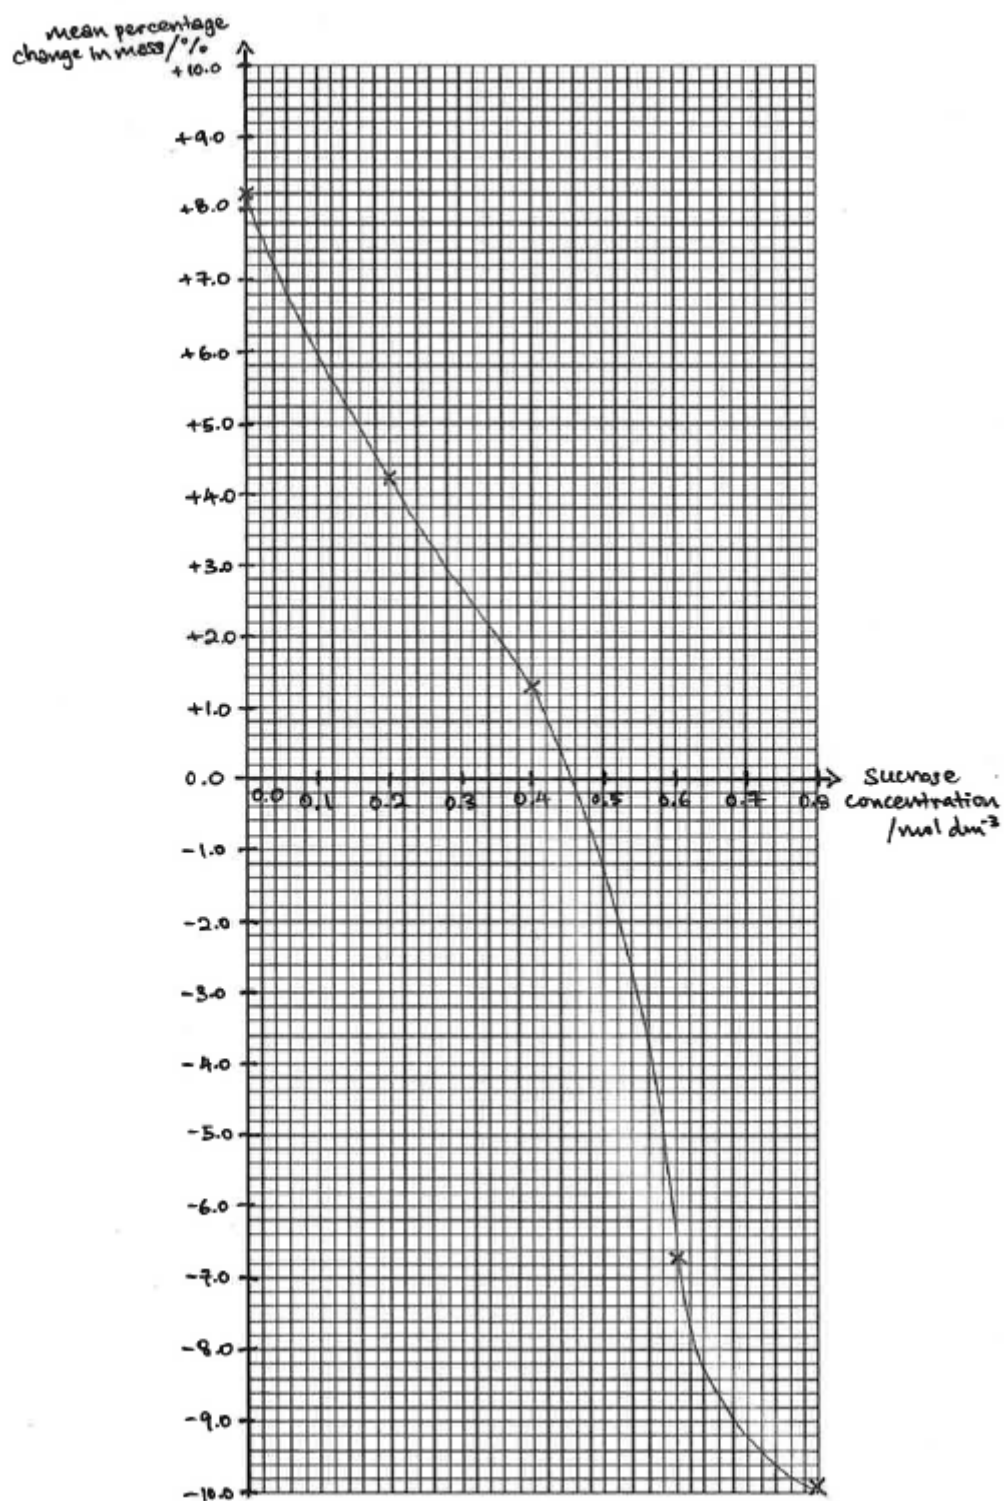

Fig. 2.1
(iii) Plot a graph of the **mean** data in Table 2.1 on the grid in Fig. 2.1.
- (iv) Use your graph in Fig. 2.1 to estimate the concentration of sucrose solution that would result in **no** change in mass of the potato pieces.